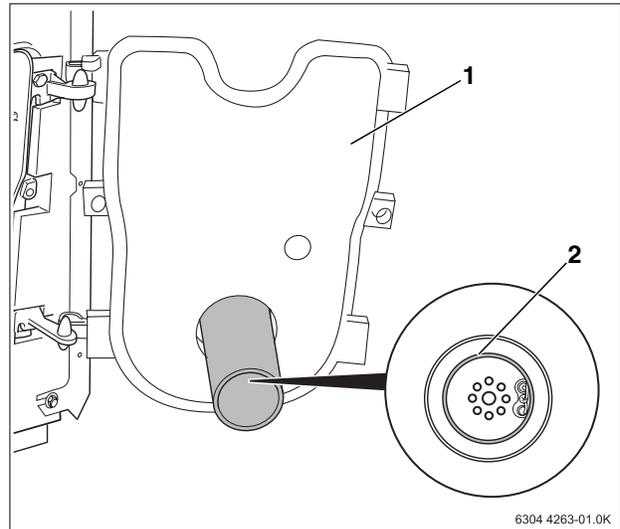

Fig 32 Check gasket for proper positioning
- Verify proper placement of the gasket (Fig. 32, **Item. 1**), with the burner door open (Fig. 32, **Item. 2**).
- Close boiler door (Fig. 32, **Item. 1**) and secure with two bolts. Torque to 35 ft-lbs.